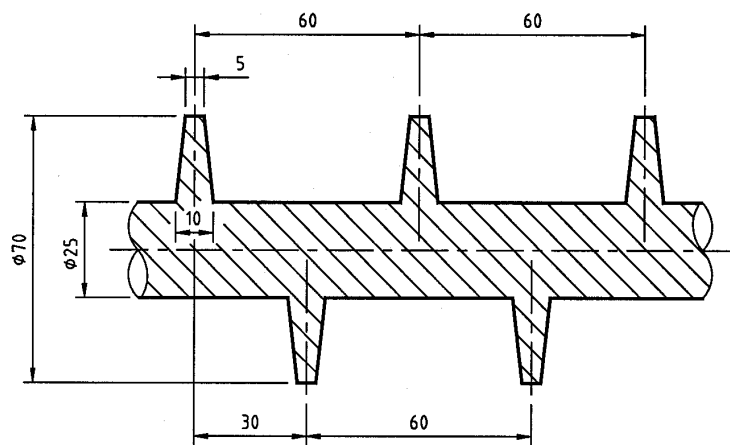

FIG. 2 FIGOR 2
2. (a) Fig. 2 below shows details, in section, of a right-hand, single-start feed screw for an injection moulding machine. Draw an elevation of this screw for a length of 120 mm, showing its helical form at both outside and root diameters. Hidden details/curves are not required.